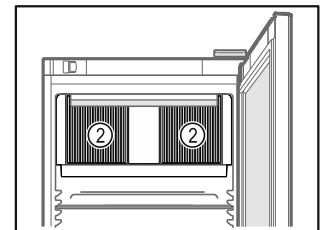

Fig. 75
- Ventilation slots Fig. 75 (2) for recirculation fan in the interior must be kept clear.